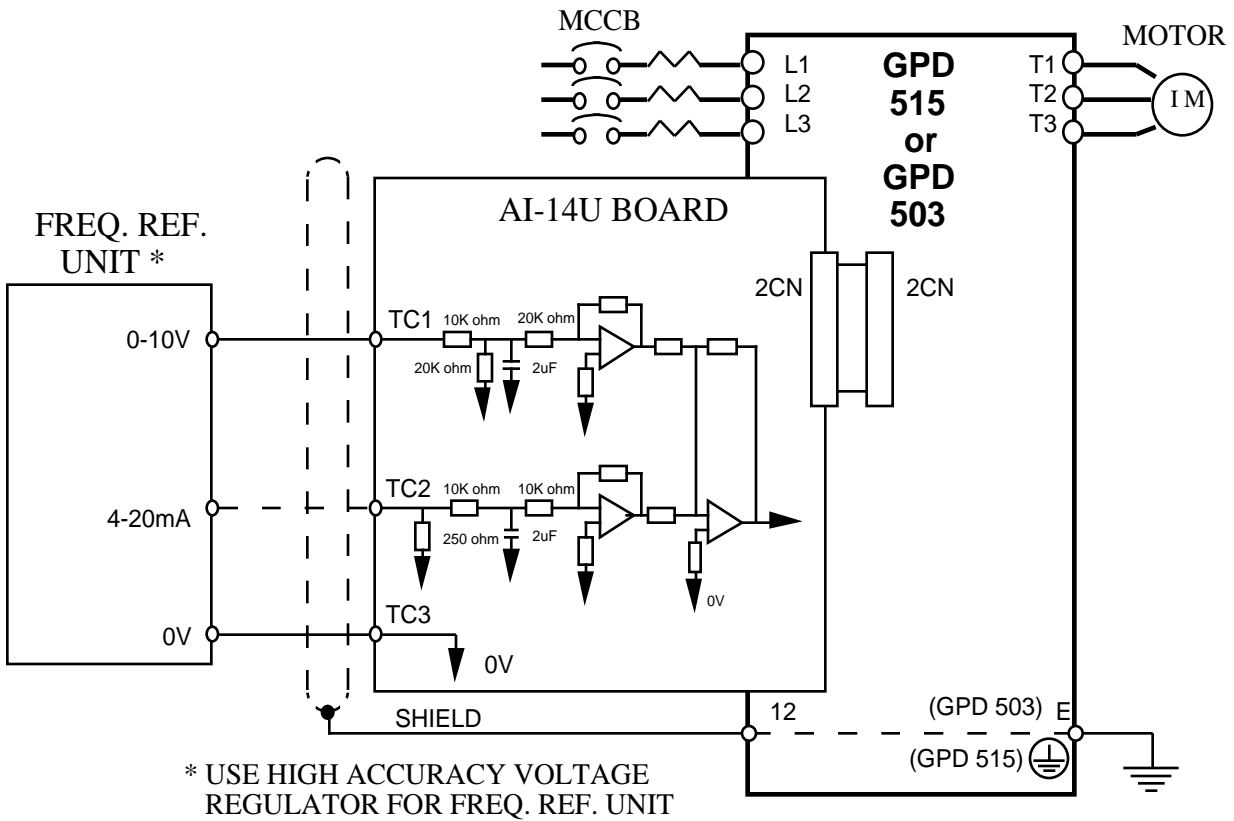

Figure 3. Interconnection for Analog Speed Reference (AI-14U) Circuit
5. Wiring. See Figure 3 for Analog Speed Reference connections. See Table 2 for terminal functions.